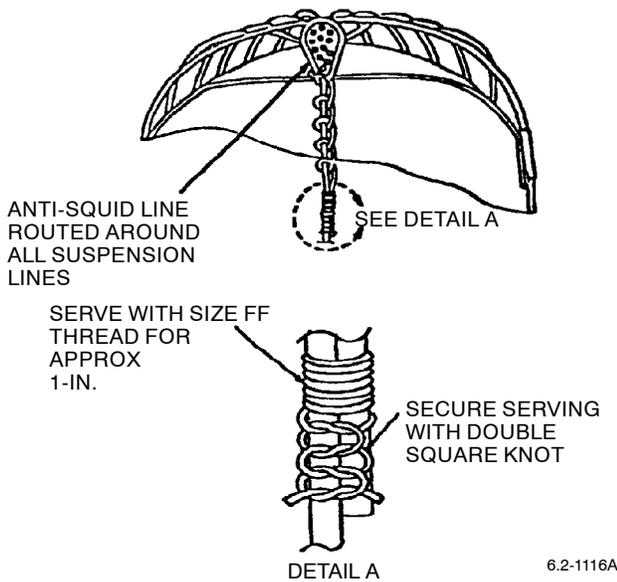

Figure 7. Anti-Squid Line Attachment
d. Anti-squid line for proper attachment at canopy apex (Figure 7). (QA)